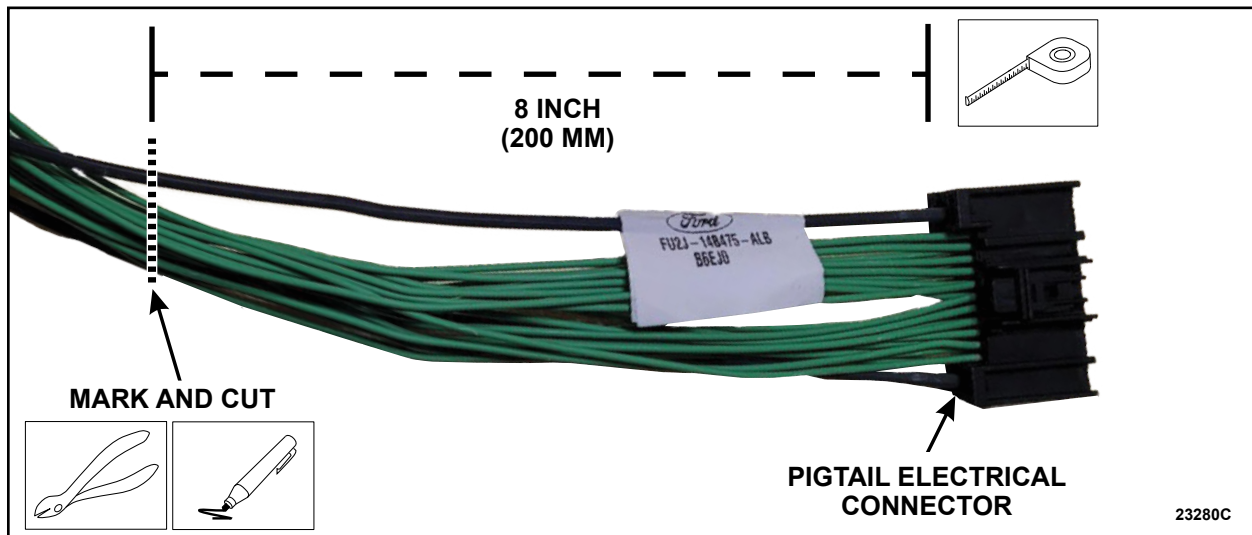

FIGURE 5
10. On the replacement pigtail, measure 8 inch (200 mm) from the back of the connector and cut off the excess wire. See Figure 5.